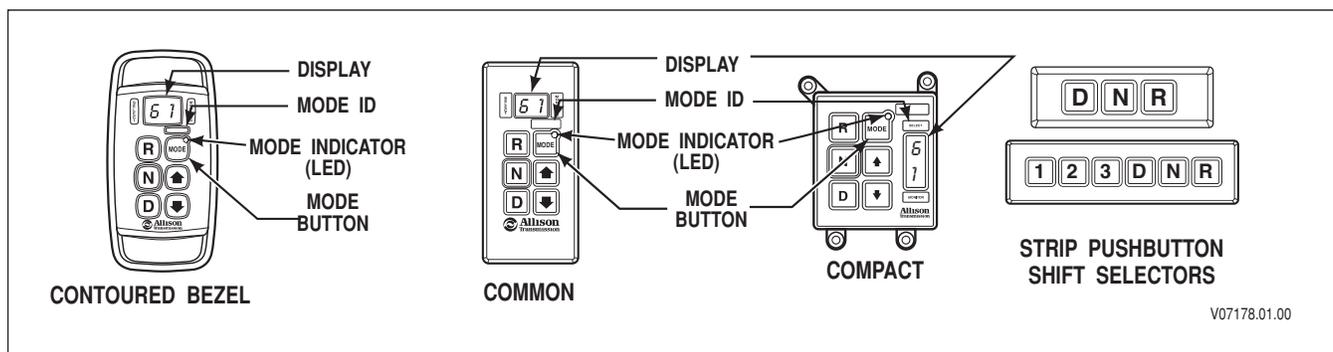

Figure 1-4. Typical Pushbutton Shift Selectors
A. Pushbutton Shift Selector (Figure 1-4)
The strip pushbutton shift selector has either three or six range selection positions as shown in Figure 1-4. When a strip pushbutton shift selector is used, diagnostic information must be obtained by using the Allison DOC™ For PC-Service Tool, or a customer-furnished remote display.